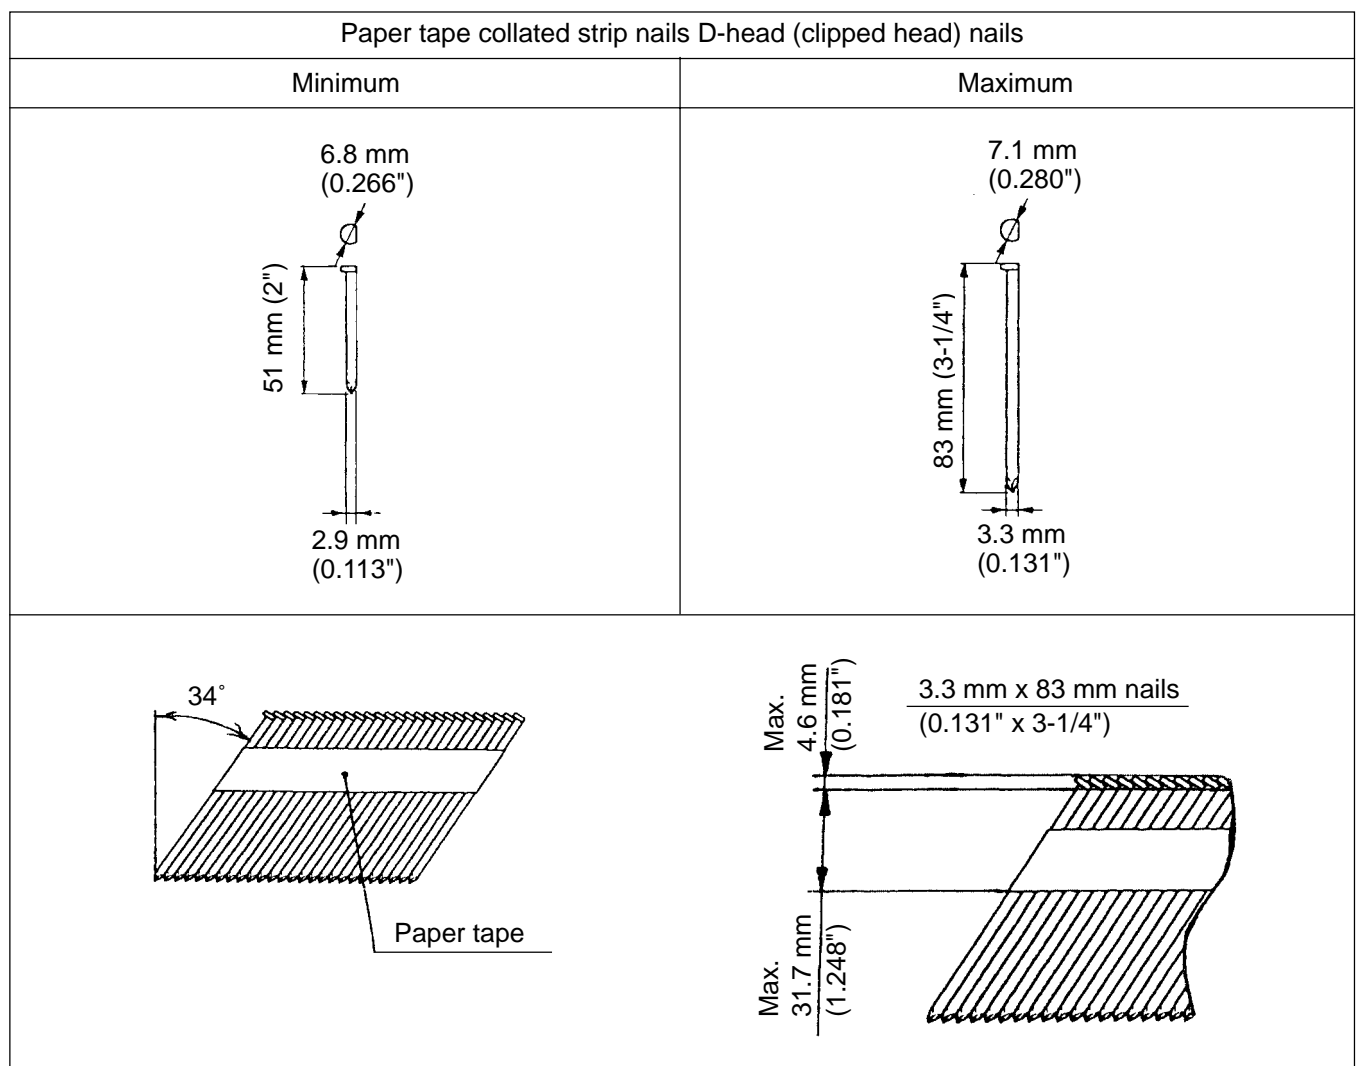

Fig. 1 Dimensions of nail
**CAUTION:** Ensure that nails are as specified in Fig. 1. The Model NR 83AA2 utilizes D-head (clipped head) nails collated at an angle of 34 degrees which are the same as the nails utilized by a competitor's model Paslode. However, some D-head nails made by other makers are collated at a different angle of 26 degrees. Use of such nails will cause clogging of nails and subsequent damage to the nailer. Also avoid use of misaligned nails or nails collated with a weak paper tape. It is recommended to use genuine HITACHI nails to ensure satisfactory driving quality.